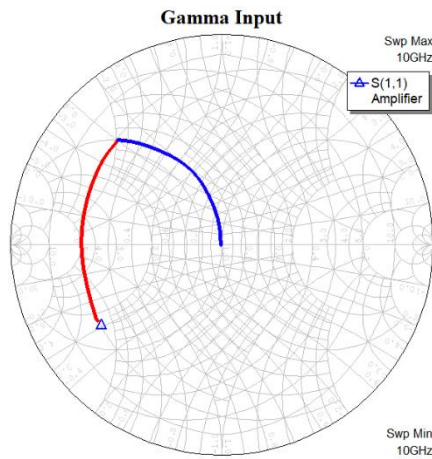

Fig. 4 Input reflection of a transistor with $50\ \Omega$ load and input matching circuit design procedure.
- In order to derive a suitable LC structure, plot S_{11} (source schematic Amplifier) into the Smith Chart, see Fig. 4.